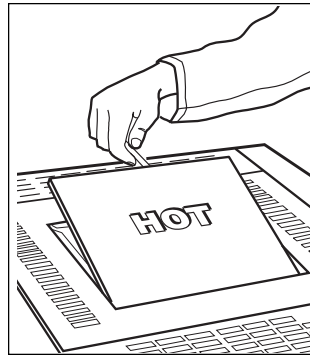

Figure 2. Top filler plate.
- a. Remove the top filler plate, stamped "HOT", by slipping a fine-blade screwdriver into the slot at the rear of the plate and gently prying it up (see Figure 2).